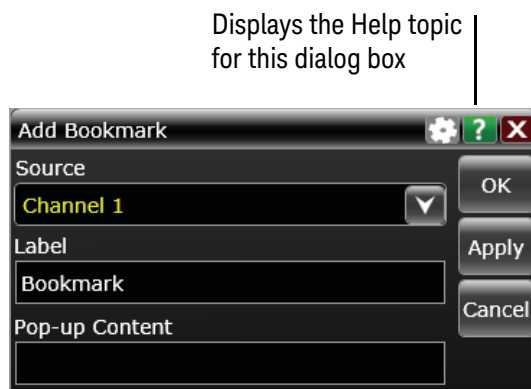

Figure 22 Help button for dialog box help
- Click the question mark near the top right corner of a dialog box to open to the help topic for that dialog box (**Figure 22**).